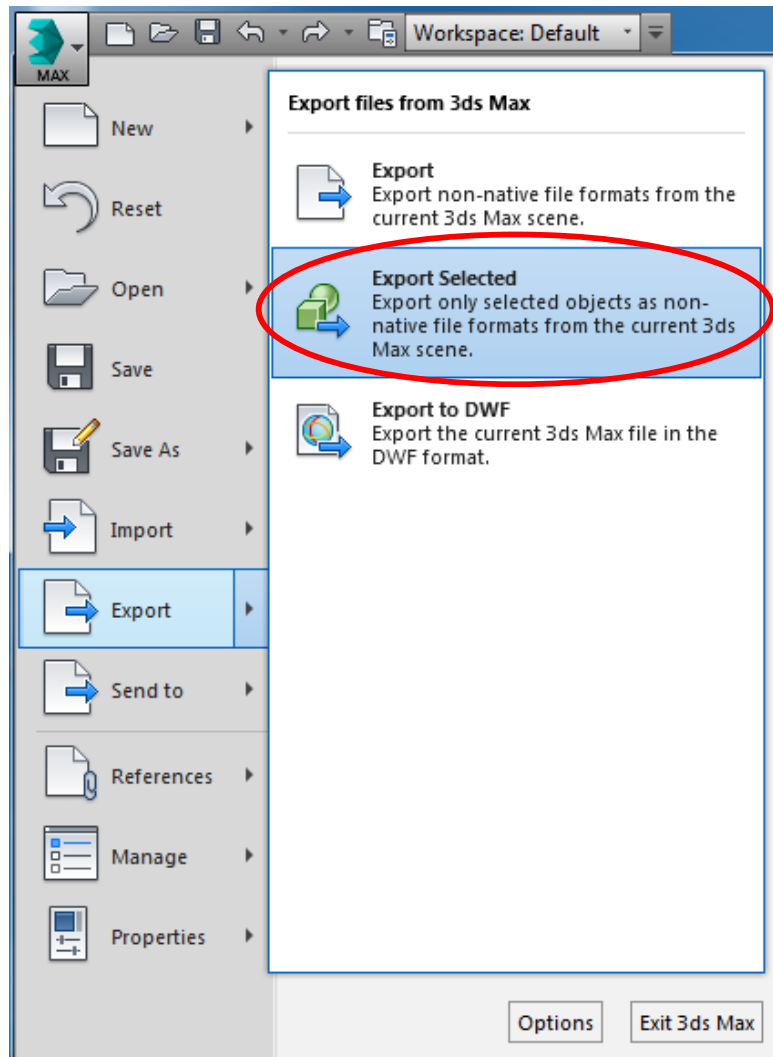

FIGURE 21: MENU NAVIGATION FOR EXPORTING A MODEL
2. After all the selection sets are created, click on the “M” or similar icon in the top left-hand corner of the screen. Scroll down to export and then scroll over to Export Selected as shown in Figure 21 below: